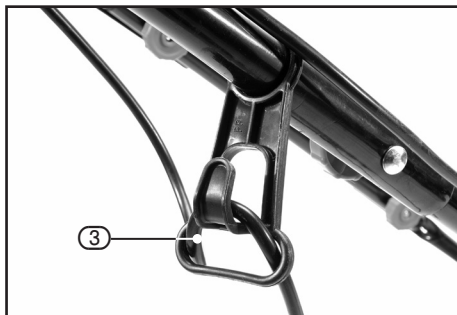
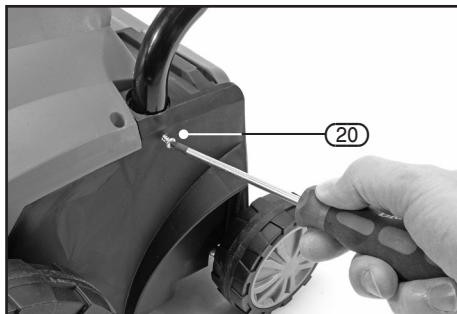

FIG.1
FIG.2
8.1 CABLE RESTRAINT (97921/98931) – FIG. 1
8.2 HANDLE ASSEMBLY (97921/98931) – FIGS. 2 – 8
- Slot the handle lower sections (4) into holes located on body and secure with screws (20) provided, Fig.1.
- Assemble the handle mid section (10) over the outside of the lower handles (4) so the concave face of the handle is innermost.
- Push bolts (11.1) inward through the mid section (locating the square shoulder) and through the lower section handle before securing with locking knob (11.2) Fig.2.
- The top section (13) of the handle is secured the same method as the mid section (10).